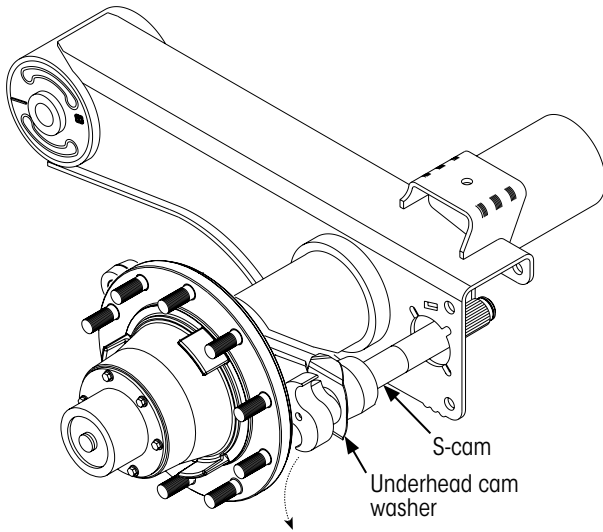

Figure 21: S-cam and underhead cam washer removal
1. **Remove** the S-cam and the underhead cam washer from the outboard side of the spider (Figure 21).